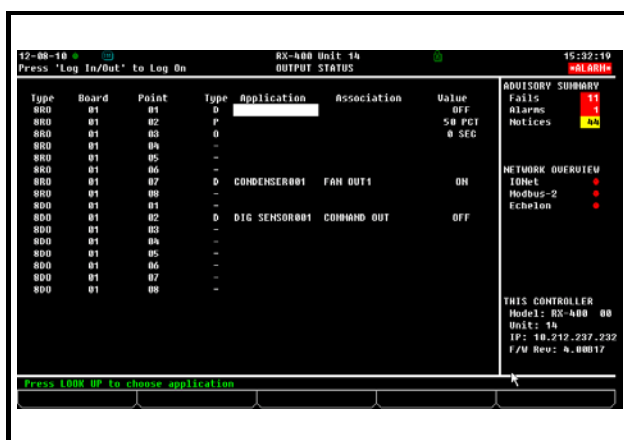

Figure 9-10 - Output Status Screen
Open the Digital Output screen by selecting a Digital (**D**) input from the Output Status screen Figure 9-10 and pressing **F1** (SETUP).
Open the Analog Output screen by selecting an Analog (A) output from the Output Status screen *Figure 9-10* and pressing **F1** (SETUP).